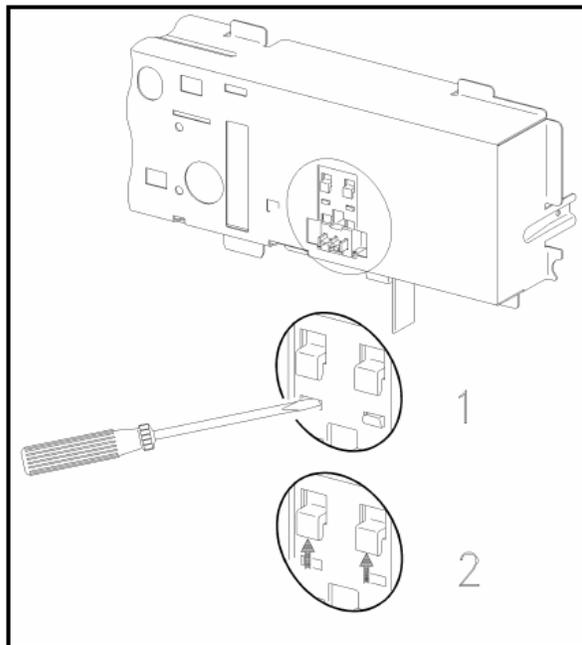

Fig. 5-40: Mains Switch Removal
6. Press in the retaining lugs; see Fig. 5-40, Pos 1.
7. Slide the mains switch upwards, see Fig. 5-40, Pos.2, and remove it from its holder.